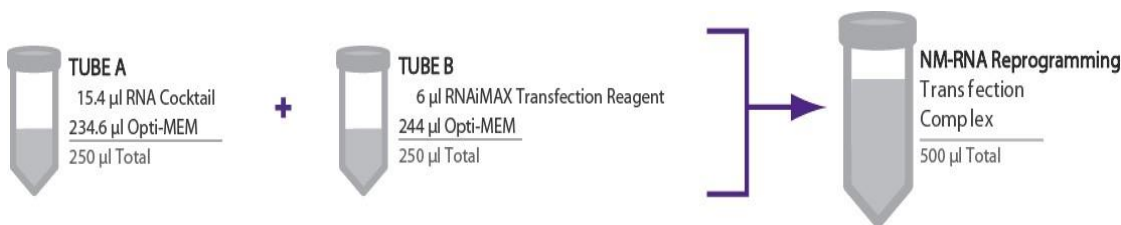

FIGURE 3. NM-RNA Reprogramming cocktail set-up
- To tube B, add 6 µL RNAiMAX transfection reagent to 244 µL Opti-MEM (see Figure 3).